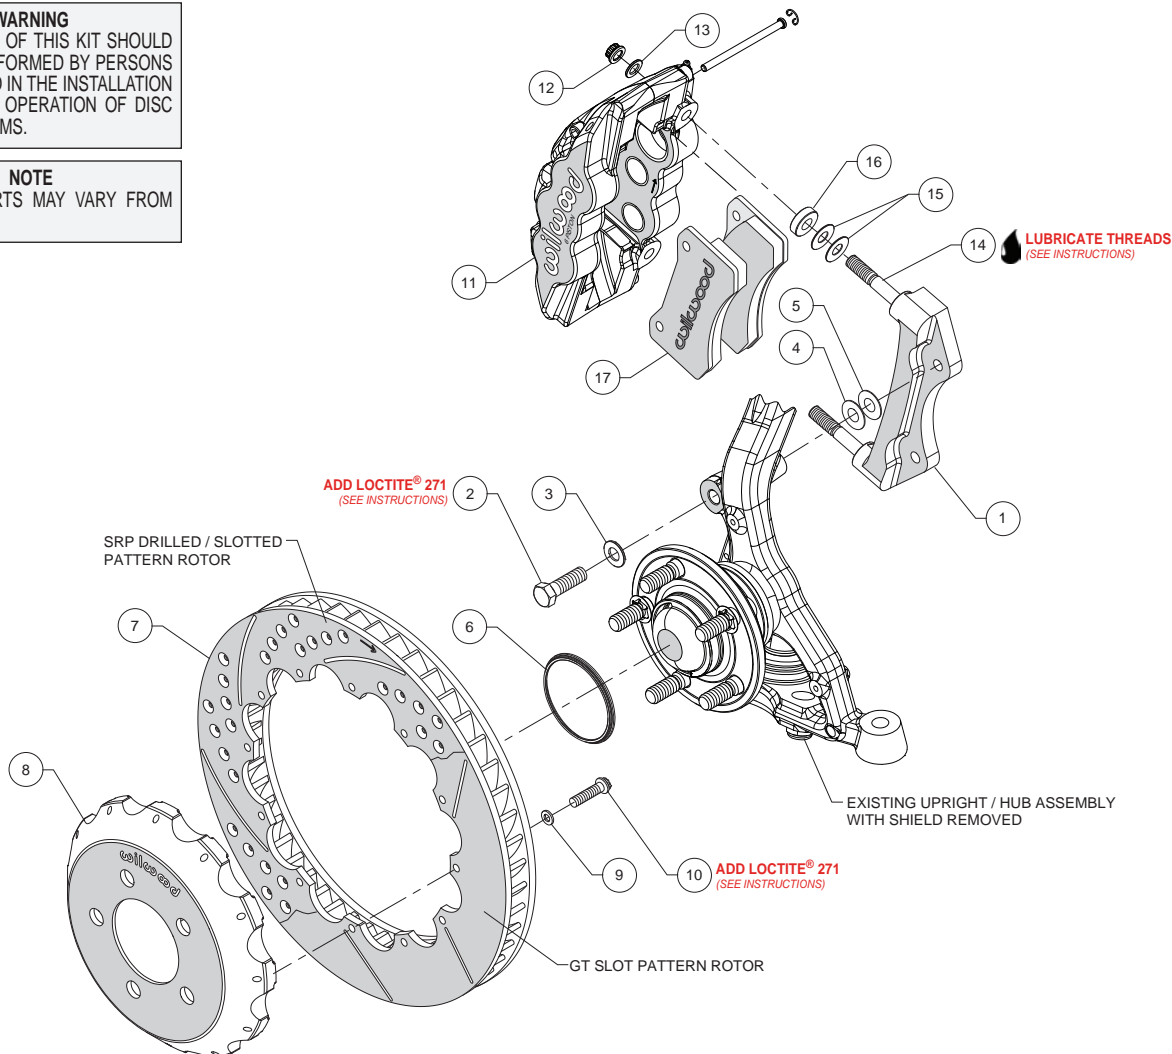
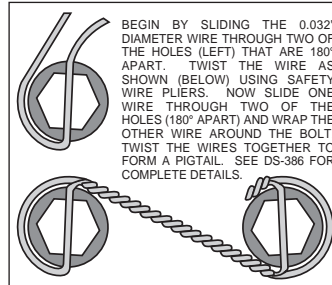

Figure 1. Typical Installation Configuration
Figure 3. Safety Wire Diagram
Assembly Instructions (numbers in parenthesis refer to the parts list and Figure 1 on the preceding pages):
- The caliper mount bracket (1) should initially be installed with clean, dry threads on the mounting bolts. Orient the bracket as shown in Figure 1 and Photo 1 and install using mount bolts (2) and washers (3). Initially place one each .033" thick shim (4), and .015" thick shim (5) on each bolt between the bracket and upright, Figure 1. Temporarily tighten the mounting bolts. **NOTE:** The bracket must fit squarely against the mount bosses on the upright. Inspect for interference from casting irregularities, machining ridges, burrs, etc. Later, after the caliper alignment has been checked, the mount bolts will be secured using red *Loctite*® 271.
- Orient the rotor (7) and the hat (8) as shown in Figure 1 and Photo 2. Attach rotor to hat using bolts (10) and washers (9). Using an alternating sequence, apply red *Loctite*® 271 to the threads and torque bolts to 155 in-lb. For an added measure of security, the bolts may be safety wired using standard 0.032 inch diameter stainless steel safety wire as shown in Figure 3. Please refer to Wilwood's data sheet DS-386 (available at www.wilwood.com/Pdf/DataSheets/ds386.pdf) for complete safety wire installation instructions.
- NOTE:** This kit contains distinct right and left hand calipers that must be mounted in a specific direction, as described below. Lubricate the caliper mounting studs (14) with lightweight oil. Initially place two .030" thick shims (15) and spacer (16) on each stud between the caliper and the bracket, as shown in Figure 1 and Photo 4. Mount the caliper (11) onto the bracket (1) using lock nuts (12) and washers (13), Figure 1. Temporarily tighten the lock nuts. Ensure that the caliper is mounted so the largest pistons are at the rotor exit end of the caliper, in relation to the direction of the rotor. View the rotor (7) through the top opening of the caliper. The rotor should be centered in the caliper, Photo 5. If not, adjust by adding or subtracting shims (4 and/or 5) between the bracket and the upright. Always use the same amount of shims on each of the two mounting bolts. Once the caliper alignment is correct, remove the bracket mounting bolts one at a time, apply red *Loctite*® 271 to the threads, and torque to 65 ft-lb.
- Remove the two pad retaining pins from the caliper (11) by carefully popping out the pin retaining clips and sliding out the pins. Insert the brake pads (17) into the caliper from the bottom, Figure 1 and Photo 6. With the friction material facing the rotor, secure the brake pads in place with the pad retaining pins and clips, Photo 7. Reinstall the caliper onto the caliper mounting bracket and temporarily tighten the lock nuts. Check that the top of the brake pad is flush with the outside diameter of the rotor, Photo 8. If not, adjust by adding or subtracting shims (15) between the caliper and the bracket. After the caliper pad height is set, torque the caliper lock nuts (12) to 47 ft-lb.